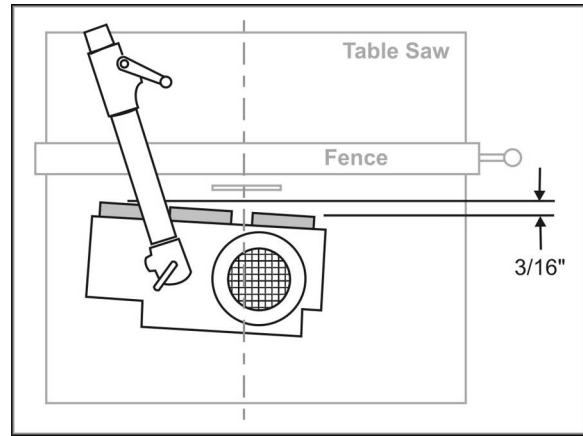

Figure 18
1. Position the Stock Feeder so that the axis of the saw blade lines up between the center roller and infeed roller. See Figure 18. This will allow the Stock Feeder to grip the offcut of the workpiece as it leaves the blade.
2. Rotate the Stock Feeder so that the direction of feed is angled slightly toward the fence by approximately $3/16"$ (5mm); that is, the outfeed roller should be slightly closer to the fence than the infeed roller. See Figure 18.